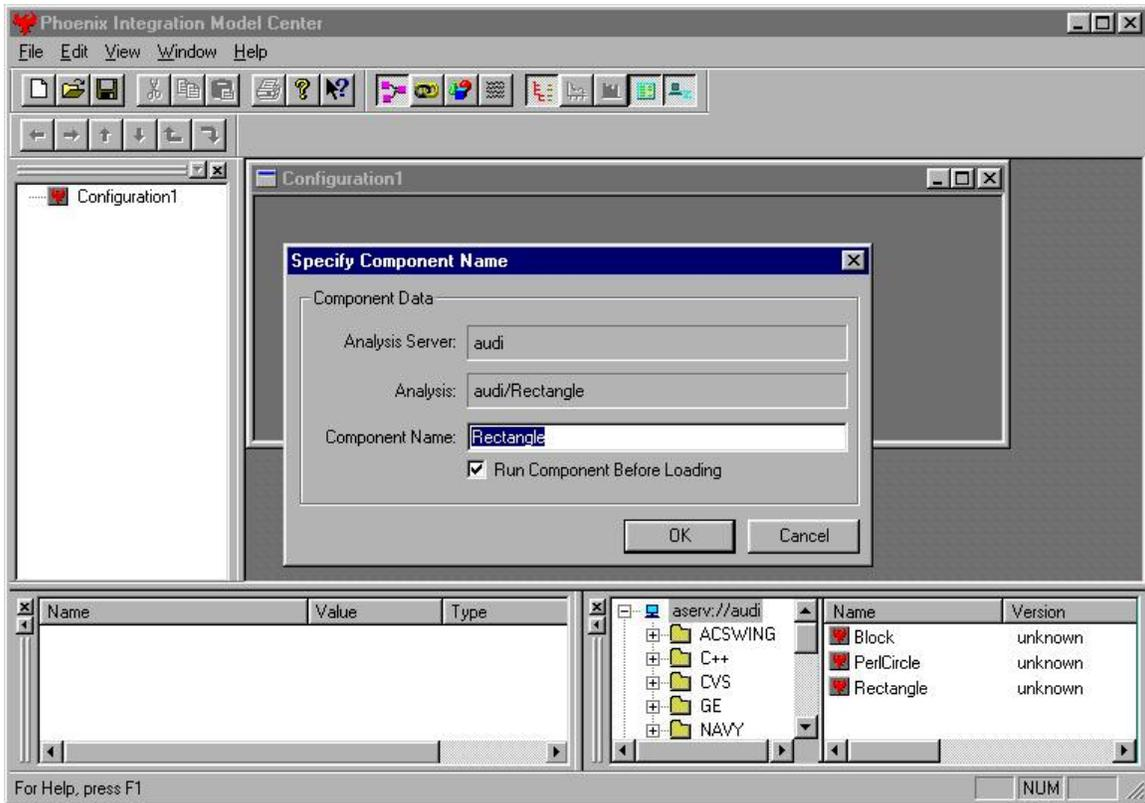

Figure 9. When you drag components into the configuration window, you must specify a component name
3. Select **Rectangle** and drag it to the **Configuration Window**. You will be asked to specify the component name. For this example, accept the dialog box defaults as shown in Fig. 9, and click **OK**.